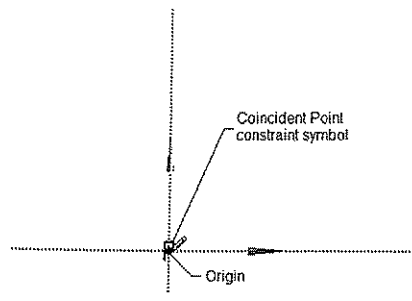

Figure 3-19 Specifying the start point of the line
- 7. Move the cursor close to the origin in the **Graphics** window and click to specify the start point of the line when the symbol of Coincident Point constraint (P) is displayed, refer to Figure 3-19.